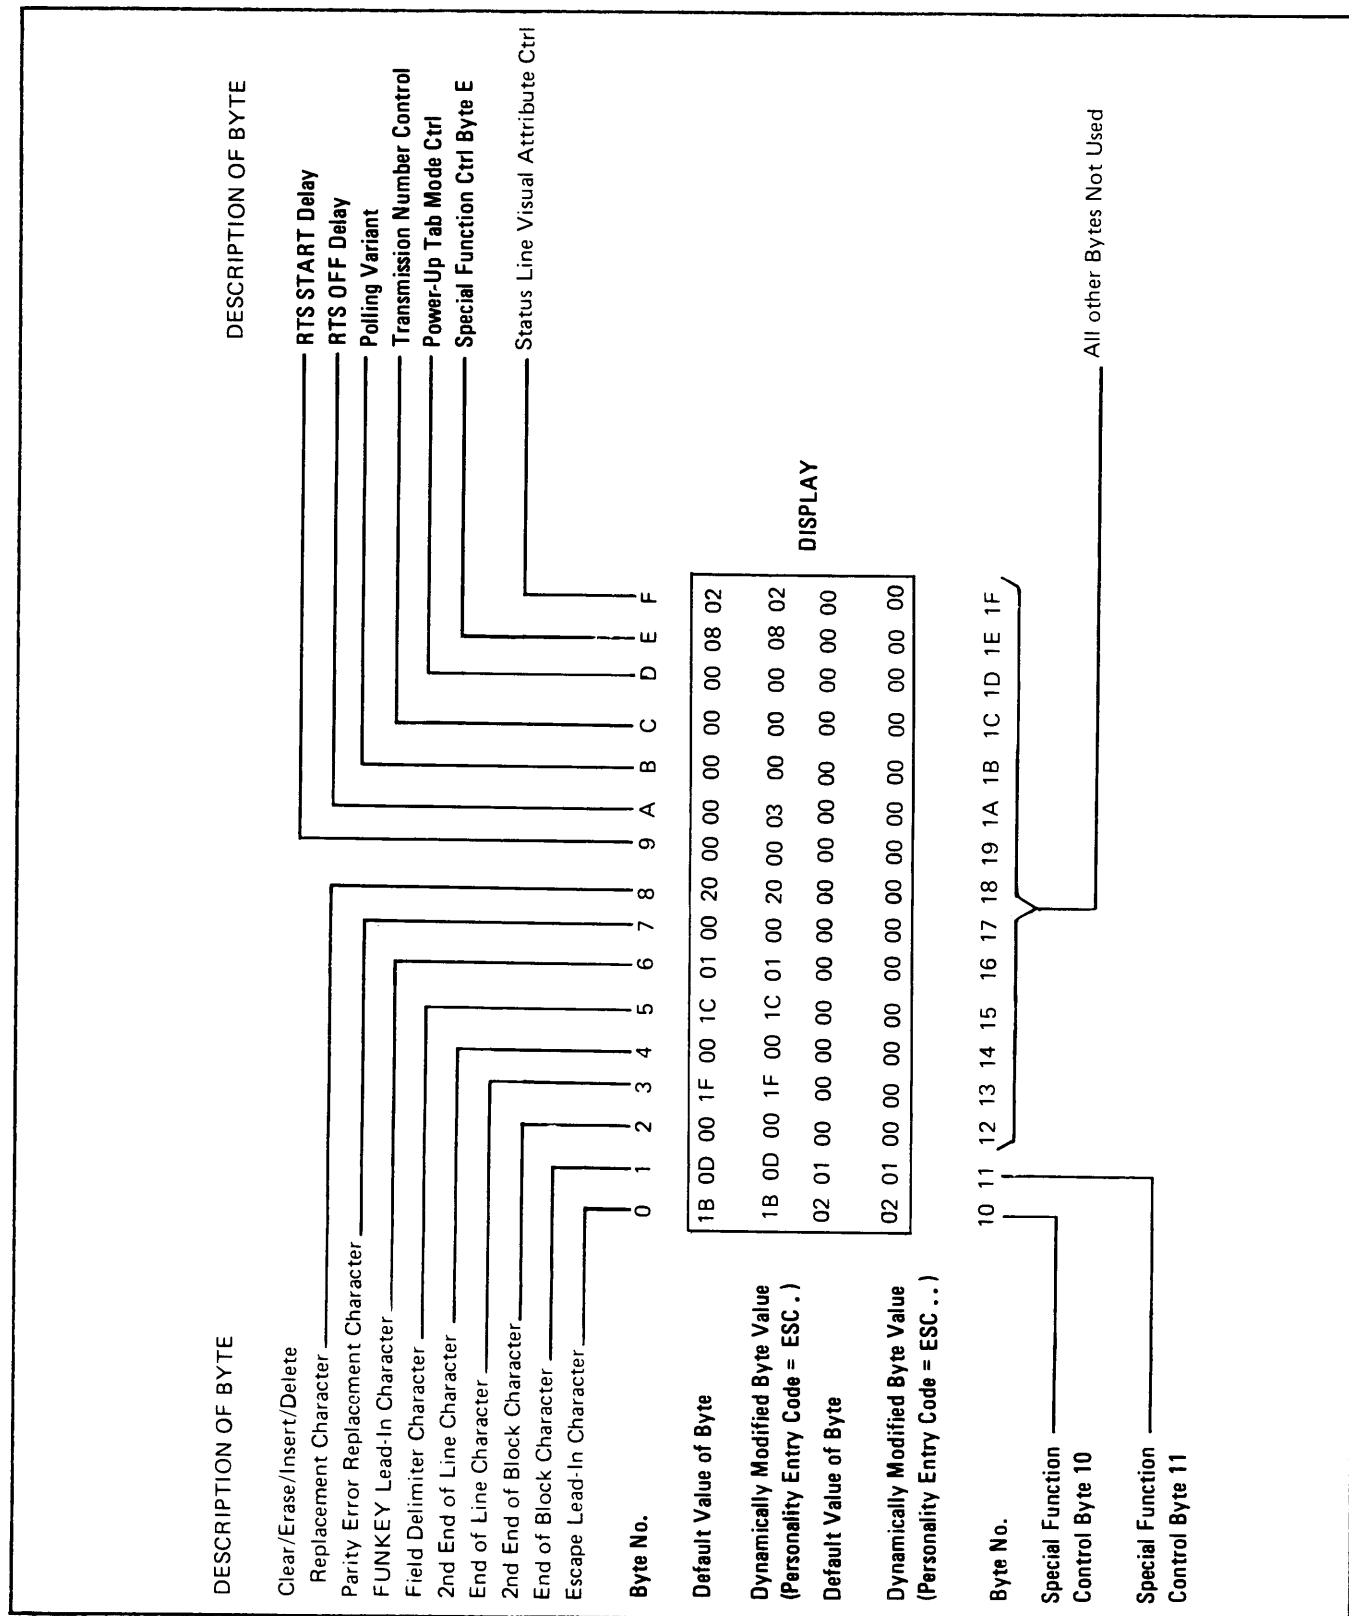

Figure 4-6. Display of Standard Personality Byte Values
Figure 4-6 shows a coding chart for all the personality codes available in the ADM 42. This chart may be called up to the screen by executing ESC o 0. The displayed codes are HEX codes which have the following significance. The ADM 42 personality has the capability to allow certain terminal characteristics to be altered.
As shown in figure 4-6, the standard or default Escape Lead-In Character is ESC (HEX 1B). Personality Byte 0 (ESC . 0) can modify the lead-in sequence to replace the normal ESC code with another ASCII character, which then would be used as an escape sequence lead in. SHIFT ESC then may also be used to execute an escape sequence from the keyboard.
Figure 4-6 shows that the standard 1st End Block (transmission terminator) character is CR (HEX 0D), and the 2nd End Block character is NUL (HEX 00). Personality Byte 1 (ESC . 1) is used to modify the 1st terminator, and Byte 2 (ESC . 2) is used to modify the 2nd terminator. These characters are transmitted at the end of all **Block Mode** transmissions.
Figure 4-6 shows that the standard 1st New Line character is US (HEX 1F) and the standard 2nd End Block character is NUL (HEX 00). Personality Byte 3 (ESC . 3) is used to modify the 1st New Line character, and Byte 4 (ESC . 4) is used to modify the 2nd New Line character. **Example** - It is desired to transmit LF and CR instead of the standard US character: execute: ESC . 3 0A, followed by ESC . 4 0D.
Figure 4-6 shows that the standard Field Separator character is FS (HEX 1C). Personality Byte 5 (ESC . 5) is used to modify this character. Field separators are usually employed when **Protect Mode** is set to delimit protected fields. **Example** - To change the Field Separator character from FS to EM, execute: ESC . 5 19.
Figure 4-6 shows that the standard FUNKEY Lead-In character for unprogrammed function keys **F1** thru **F16**, without or with **SHIFT**, is SOH (HEX 01). Personality Byte 6 (ESC . 6) is used to modify this character. **Example** - To change the SOH character to the STX character, execute: ESC . 6 02.
As shown in figure 4-6, the standard parity error replacement character (the character written on the screen when the ADM 42 senses a parity error). Thus, whatever is received in a message is displayed. Personality Byte 7 (ESC . 7) is used to modify this character. **Example** - To change the replacement character to NAK, execute: **ESC . 7 95**. Upon receipt of parity error, a NAK is displayed as a replacement character and PARITY is displayed in Status Line 25, if Bit X₇ of Personality Byte 7 is set.
As shown in figure 4-6 the standard Clear/Erase/Insert/Delete replacement character is SPACE (HEX 20). Personality Byte 8 (ESC . 8) is used to modify this character. (Operation bits X₆ and X₇ of Personality Byte 10 modify the use of this character.) **Example** - To change the Clear/Erase/Insert/Delete character to NUL, execute: **ESC . 8 00**.
The time delay in milliseconds from when Request To Send (RTS) goes high and the actual start of transmission (CTS) during a **Block Mode** transmission is the RTS START Delay time. Personality Byte 9 (ESC . 9) is used to establish a different time delay than that inherent in the terminal. HEX 00 (see **figure 4-6**) means no change in the inherent value. Any other HEX code, when converted to a decimal value, would express 1/2 the desired delay time in milliseconds. **Example** - To establish an RTS START Delay time of 115 milliseconds; execute: ESC . 9 3A. (HEX 3A=Decimal 58.)
The transmission number is the number of Polling transmissions that will be counted before recycling the count. This number is imbedded in the Polling header (refer to **Section V**) when operation bit X₀ of Personality Byte B (**table 4-11**) is set to ON. Personality Byte C (ESC . C) controls the transmission number limit. The default value (00) of this byte (see **figure 4-6**) specifies that the transmission number will not be sent. Other transmission number limits may be established as follows:
4.9.2.12 Power-Up Tab Mode Control (See **figure 4-6**.)
4.9.2.13 Special Function Control Byte E (See Figure 4-6)
The personality byte (Byte F) controls the visual attribute of the message in Status Line 25, as shown in table 4-14. The HEX value of the byte determines which operation bits are set to ON. Also, operation bit X_0 is further controlled by DIP switch S6-SW3 at location 14M, which defines whether the Status Line field will be underlined (SW3 ON) or blanked (SW3 OFF). The default value of this byte is 02 (see figure 4-6) which specifies that the 25th Line message will be blinking when entered. **Example - Execute ESC . F 07** to set operation bits $X_2X_1X_0$ and specify that the Status Line entry shall be reversed, blinking and underlined (SW3 set to ON position).
Several miscellaneous operations are controlled by Personality Byte 10, as shown in table 4-15. The HEX value of the personality byte determines which operations are set to ON. The default value of this byte is 02 (see figure 4-6) which specifies that the Erase Page operation when used, will terminate Write Protect (WPRT). **Example - Execute ESC .. 0 62** to set operation bits $X_6X_5X_4$ which specify: a) for Clear operations, the replacement character is as specified in Personality Control Byte 8. The Erase Line, Scrolling, New Line, and Erase to Spaces operations are normal; b) protected field delimiter, FS, is imbedded after an unprotected field; and c)